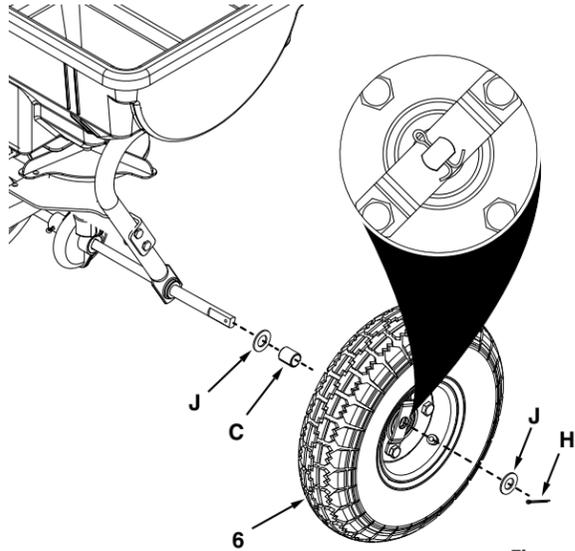

Figure 6
STEP 6 (SEE FIGURE 6): Slide a washer (J), a spacer (C), a drive wheel (6), and another washer (J) onto the flat end of the axle. Secure with a cotter pin (H) by sliding it through the hole in the axle and bending the ends.